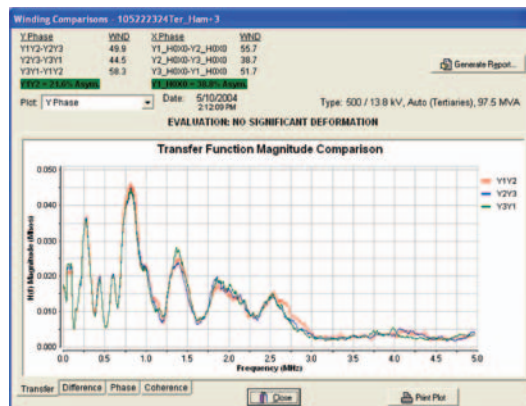

Figure 6: Field OWA FRA Test Results on 3 x 448 MVA Single Phase Auto Bank Tertiary Windings
The first set of sample results represents an OWA FRA test result comparing the tertiary windings on a set of 3 448 MVA, 500 kV (HV) to 230 kV (LV) auto transformers. The tertiary winding ratings are 13.8 kV, 97.5 MVA. The graphical results, as well as the phase to phase WND and OWA results are shown in Figure 6.